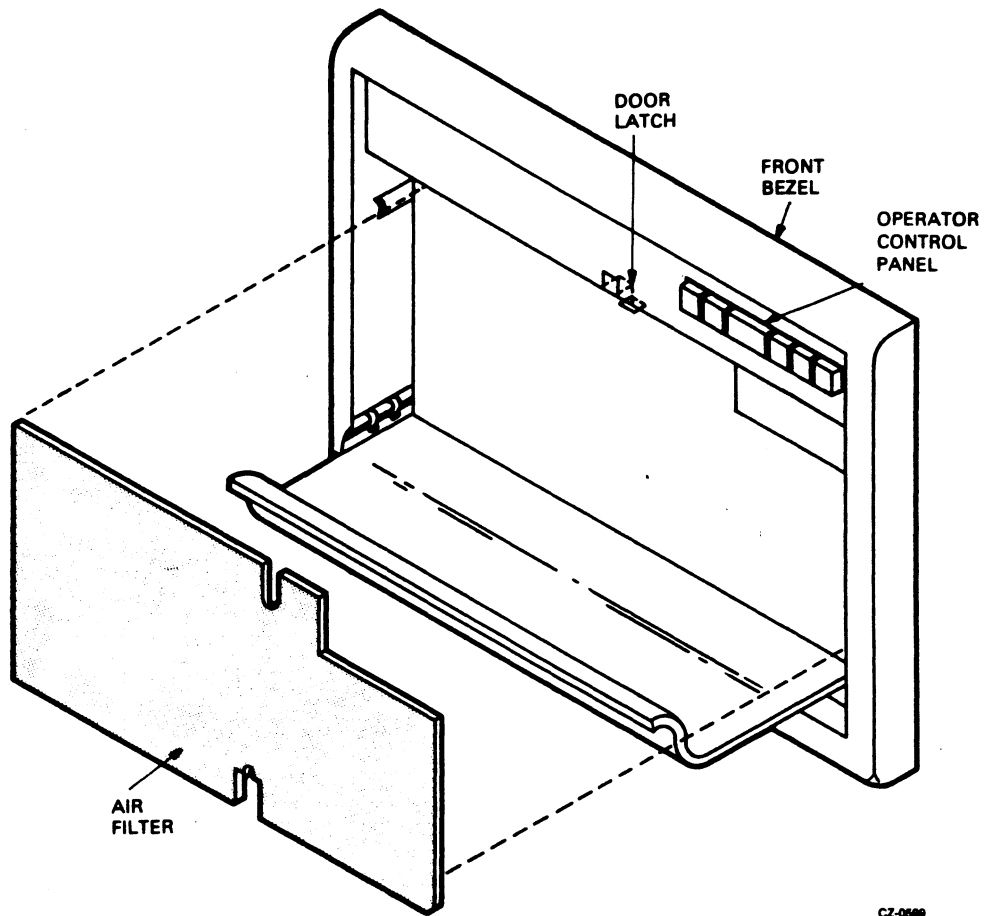

Figure 5-15 RA80 Air Filter Location
1. Pull down the access door on the front bezel of the drive (Figure 5-15).